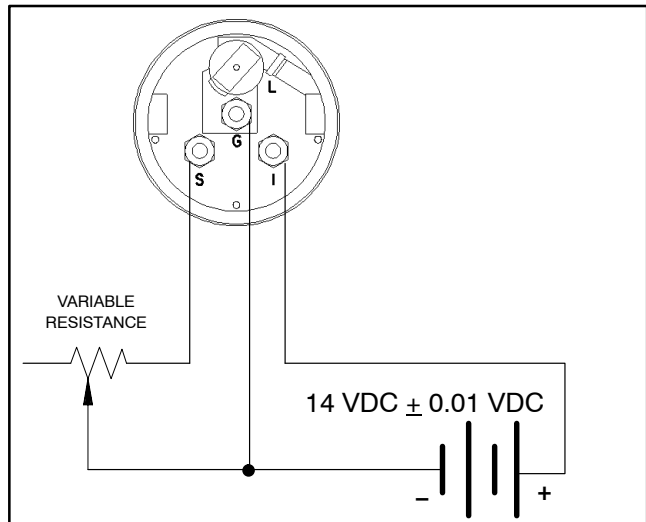

Figure 27
1. Connect fuel gauge to the variable resistance and DC voltage source (Fig. 27).